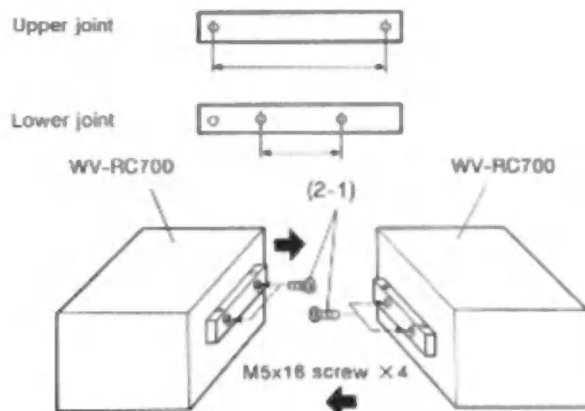

Fig. 2
- 2-1. Fix two RCU Jointing Bars(3) on the side of Remote Control Units by using four screws (M5×16, provided) as shown in Fig.2.